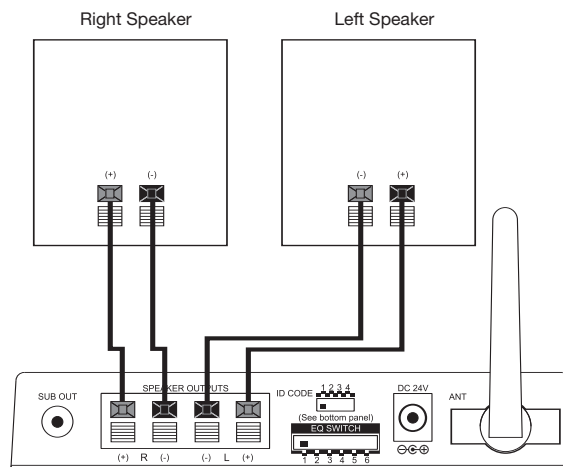

Figure 2.
Connect speaker wire (not included) to the push terminals on the receiver module ⑪ and to the connectors on your speakers, as shown in Figure 2. Please note that speaker wire features some form of a polarity indicator to help distinguish its two conductors. Use this polarity indicator to ensure that you are connecting the positive (+) terminal on one speaker to the positive (+) terminal on the other, and the negative (–) to the negative (–).